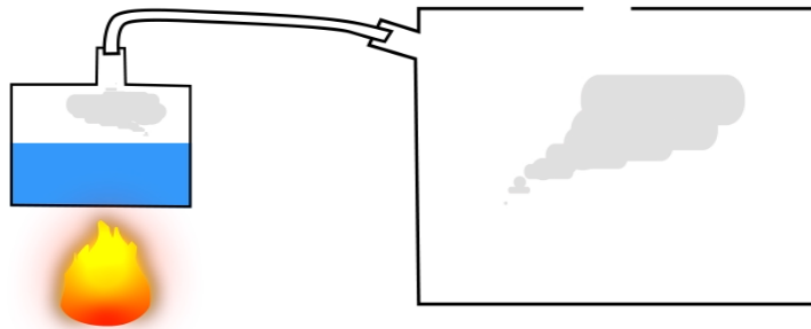

Fig. 29 Removing fuel vapors
- **Remove any fuel vapors and fumes** (especially if it is a gasoline/petrol tank); to do so, you can boil some water in a separate recipient and administer the vapor from that recipient into the tank so it could “push” the fuel vapors and fumes out; be sure to keep the fire used to boil the water far enough from the fuel tank (**Fig. 29**)